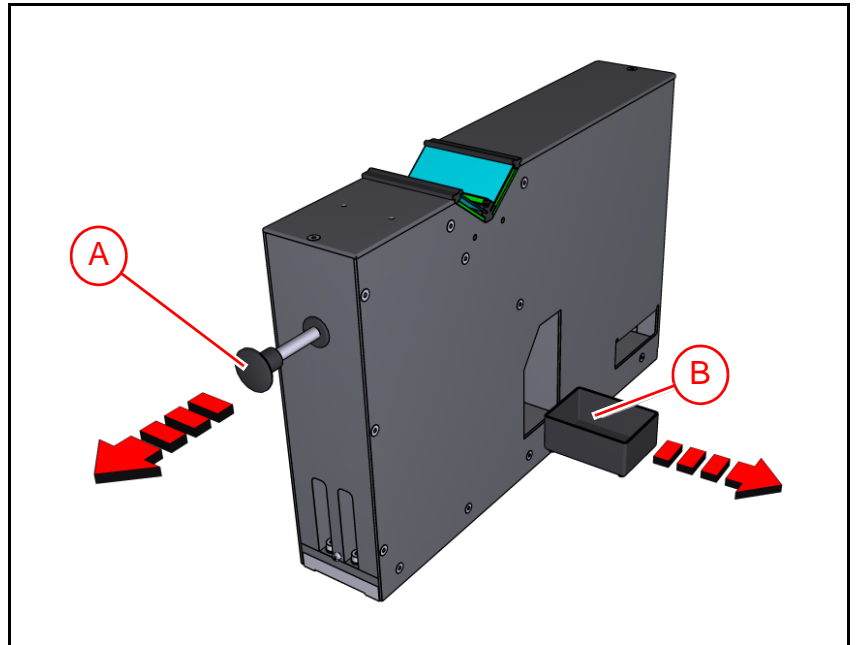

Figure 16-7. HYDRA camera dump bins.
1. Pull the lever ('1' in Figure 16-7) in the front and any components on the transparent gate will fall down to the bottom of the camera into a dump bin ('2') and can then easily be removed.